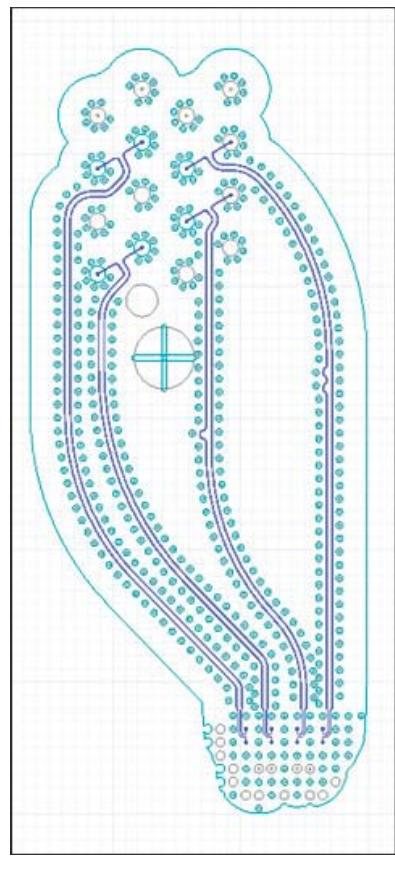

Figure 3-8: Example of Ground Stitching around Signal Pairs
- **Guard traces, 10 dB isolation improvement:** Separate each P/N pair by a ground guard-band trace that is 2X the layer height. Ensure that the above and below ground planes extend at least 4H away from the edge of each signal trace. Stitch the guard-band trace to ground every 118 mil  $\pm$  39 mil (3.0 mm  $\pm$  1 mm). All ground stitching should be implemented with through-hole vias. Figure 3-8 shows an example of guard-band stitching around P/N pairs.